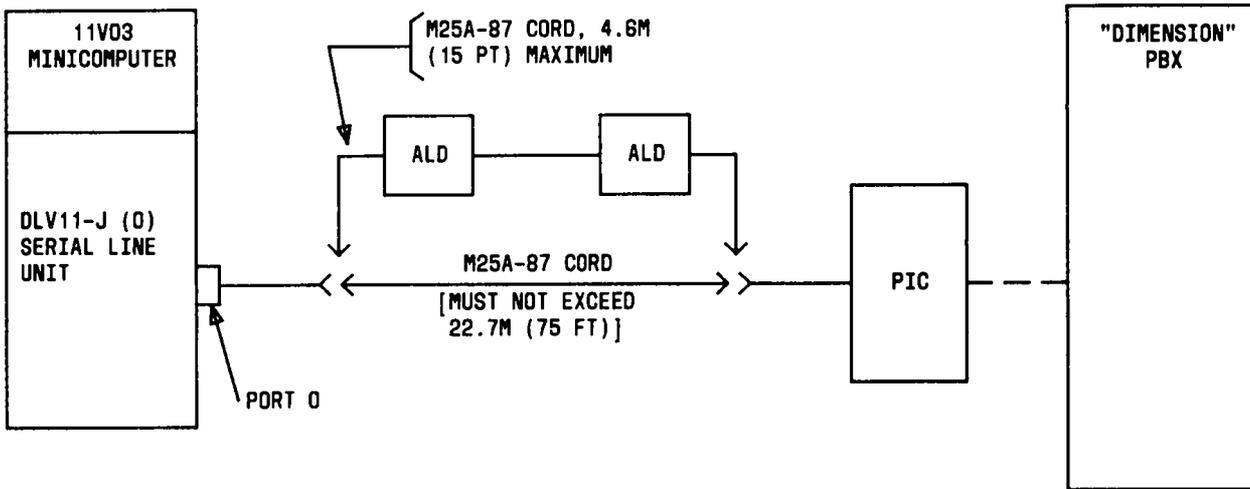

Fig. 2—Minicomputer Connection to Communication System
**5.01** The PRO 150 data channel connects to the PBX through the PIC. When the cable distance from the minicomputer to the PIC is 22.9m (75 ft) or less, then an M25A cord (or equivalent) is used. When the cable distance is greater than 22.9m (75 ft), two Asynchronous Line Drivers (ALDs) are used, one on the minicomputer end and one on the PIC end. (See Fig. 2.)